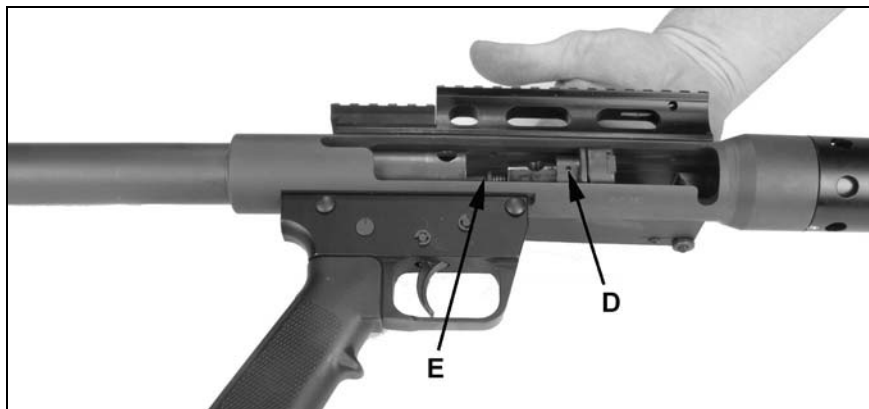

Figure 28
5. Remove bolt head (D) and firing pin (E) through magazine well or ejection port. See figure 28.